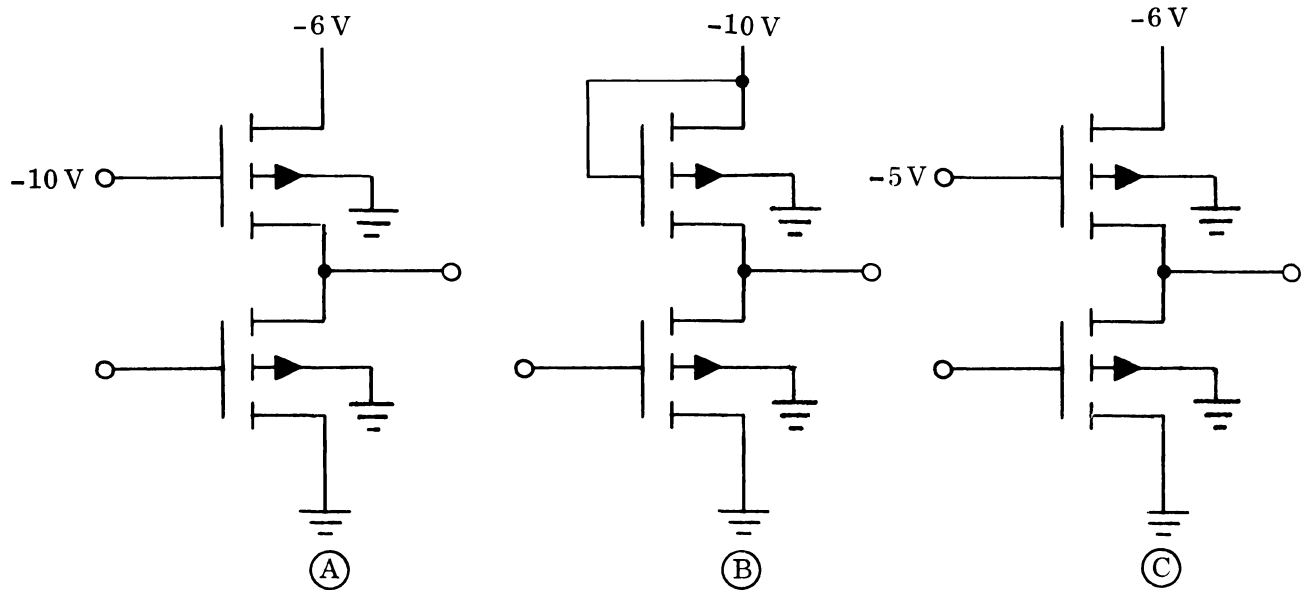

FIGURE 3
3. What is the maximum output voltage that can be obtained from each of the circuits in figure 3? Assume the threshold voltage to be -2 volts in all cases.